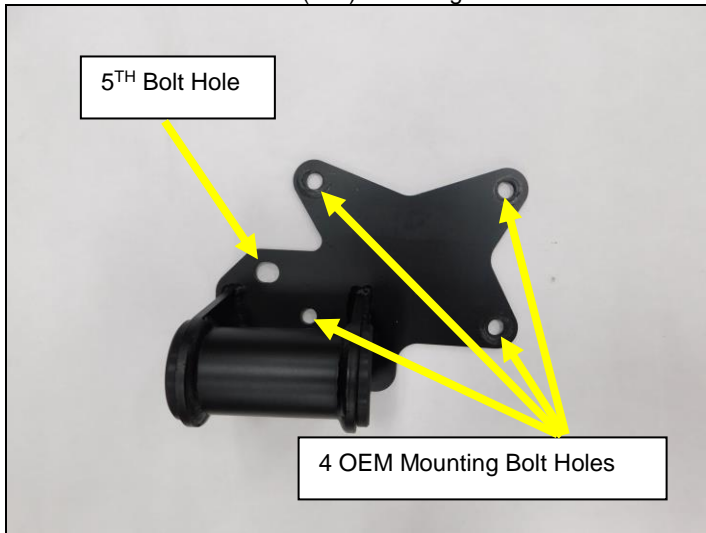

Figure 1
- With the engine out of the vehicle, install the driver's side (Left) engine mount to the engine block using (x4) M10 x 25mm flange bolts provided. Install the mount with the polyurethane mount toward the front of the engine using the OEM engine mount locations on the engine block. **NOTE:** The 5th mounting hole provided may be used in place of the 4th bolt under the motor mount pad, if the block is threaded. **NOTE:** Always use at least 4 mounting bolts (**Figures 1 & 2**).